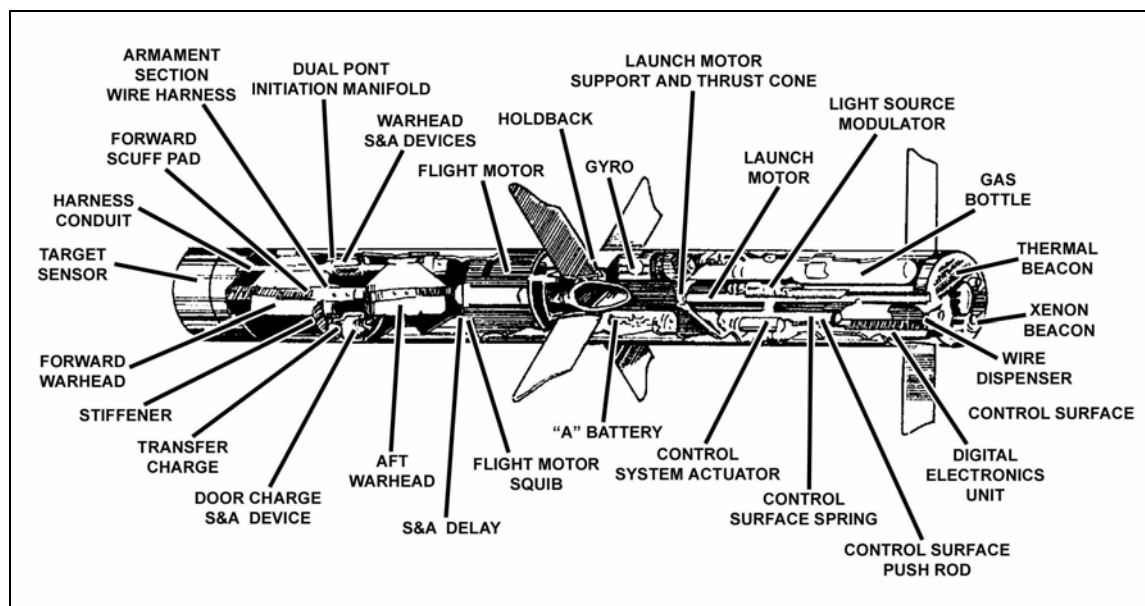

Figure 2-17. TOW 2B missile.
e. **TOW 2B (BGM-71F).** The TOW 2B is a top-attack missile (Figure 2-17, page 2-22). The missile flies about 2.25 meters above the gunner's line of sight, but the gunner aims center mass of the target. The missile detects the target by magnetic signature and optical (laser) profile. The missile's sensors cannot distinguish friendly from enemy, or destroyed from not destroyed. To prevent premature detonation of the TOW 2B warheads, crews must ensure that their line of sight is clear of friendly and destroyed vehicles. The TOW 2B has two 5-inch warheads that, when detonated, explosively form two high-density tantalum penetrators.